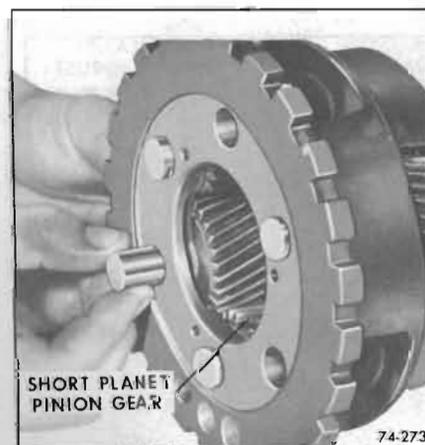

Figure 74-273
11. Position short planet pinion assembly and thrust washers at each end of the planet carrier. Install pinion shaft from the front of planet carrier. As the pinion shaft is being pushed in, make certain that it picks up the thrust washers. Turn the pinion shaft so the groove faces center of planet carrier. See Figure 74-273.